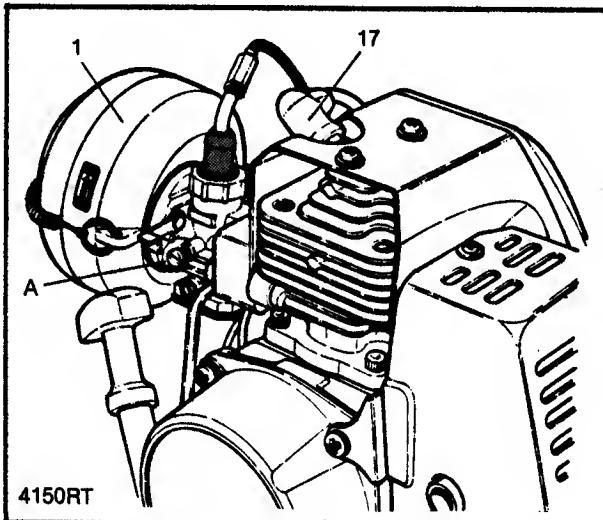

FIG. 13 - SERVICING CARBURETOR
If, after the AIR CLEANER (1), SPARK PLUG (17) and spark arrestor have been inspected/cleaned, the engine will not start, stalls at idle speed, or stalls during rapid acceleration, refer to FIG. 13 and take the following steps:
1. It is possible that the Idle mixture screw (A) needs to be adjusted if the engine starts, but stalls rather than continue to run at an idle speed. Turn the screw CLOCKWISE 1/8 turn (at a time) and restart engine - continue this procedure until the engine runs at an idle.
An alternate Idle adjustment can be made by changing the TRAVEL length of the THROTTLE CABLE (21). It enters the carburetor top through the rubber cap (C). Refer to FIG. 13-A and proceed as follows: